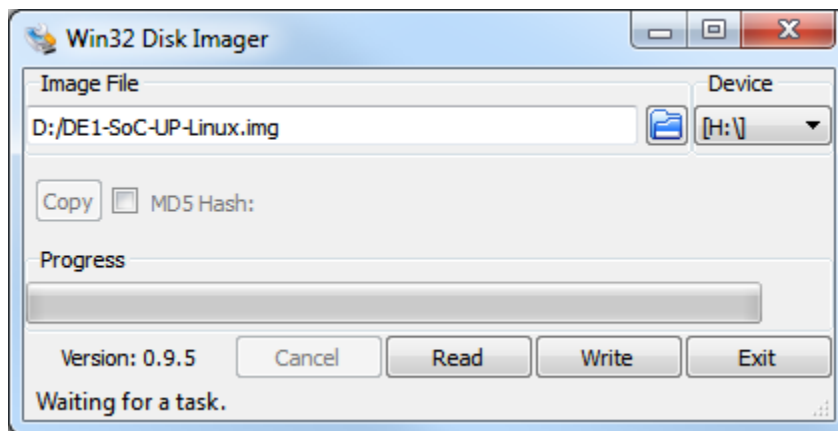

Figure 1. The Win32 Disk Imager tool
2. Select the drive letter corresponding to the microSD card under **Device**, as shown in Figure 1.
3. Select the DE1-SoC-UP-Linux.img image under **Image File**, as shown in Figure 1.